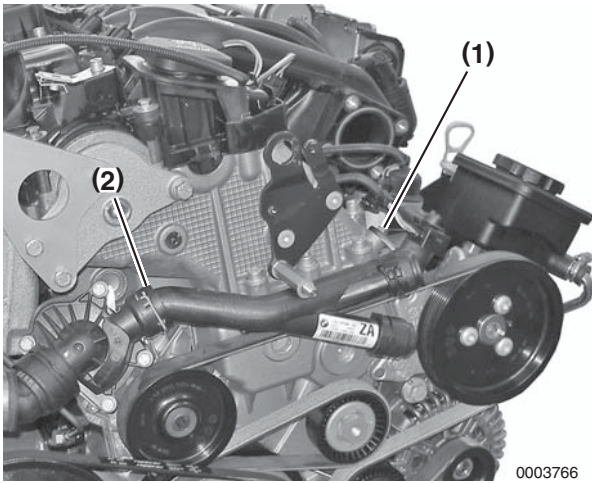

Figure 8-8
- Remove coolant pipe retaining bolt (Figure 8-8, (1)).
- Disconnect coolant pipe (Figure 8-8, (2)) from thermostat housing.